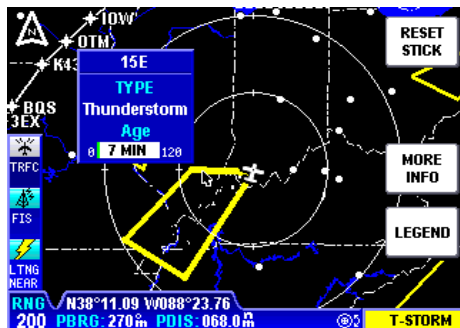

Figure 2-39
3. To view a specific Convective SIGMET, move the joystick in the desired direction and place the pointer on the desired Convective SIGMET border (see Figure 2-39). A box will pop up containing the Convective SIGMET designator, **TYPE** and the **AGE** of the report.